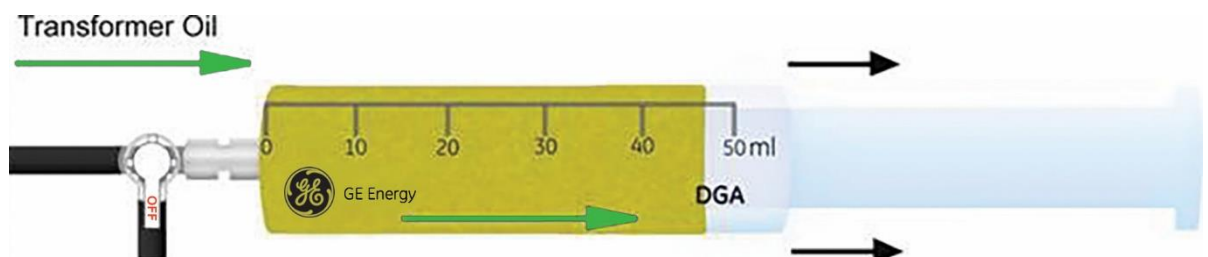

Figure 6-4: Draw oil into the syringe
7. Turn the syringe valve to permit the gentle drawing of 50 ml of oil into the syringe as shown in Figure 6-4.